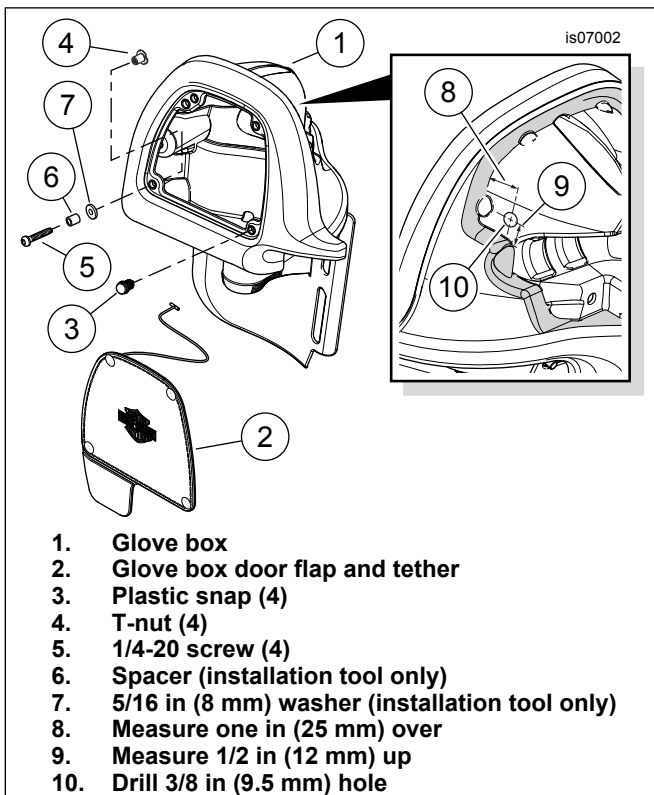

Figure 1. Prepare Glove Box for Speaker Installation (Left Side Shown)
1. See Figure 1. Remove the door flap and tether (2) from the glove box (1) on a lower fairing. Cut the back side of the four plastic snaps (3), remove from the front of the glove box and discard.